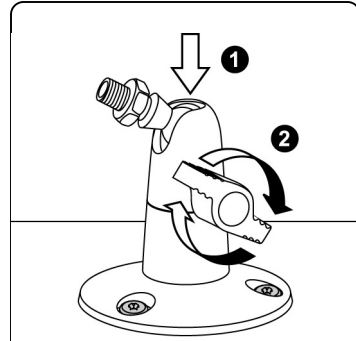

Figure 8. Mounted bracket
- 5) Reinstall the top of the bracket onto the mounting plate and tighten the wing nut as shown in Figure 8.